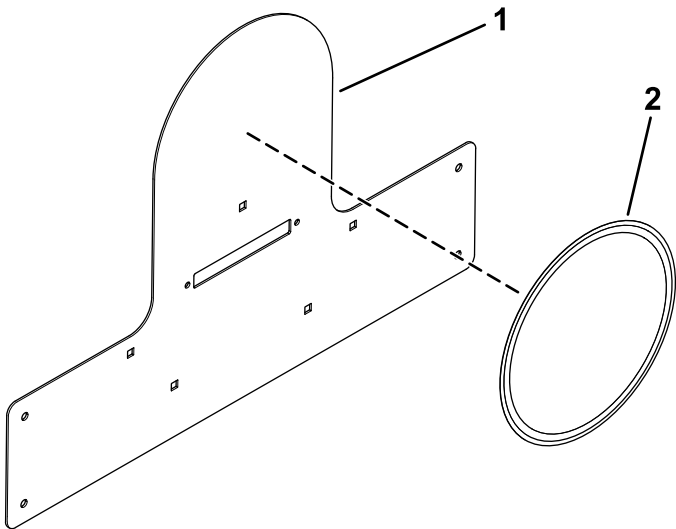

Figure 21
7. Apply a speed decal to the speed-plate mount (Figure 21).